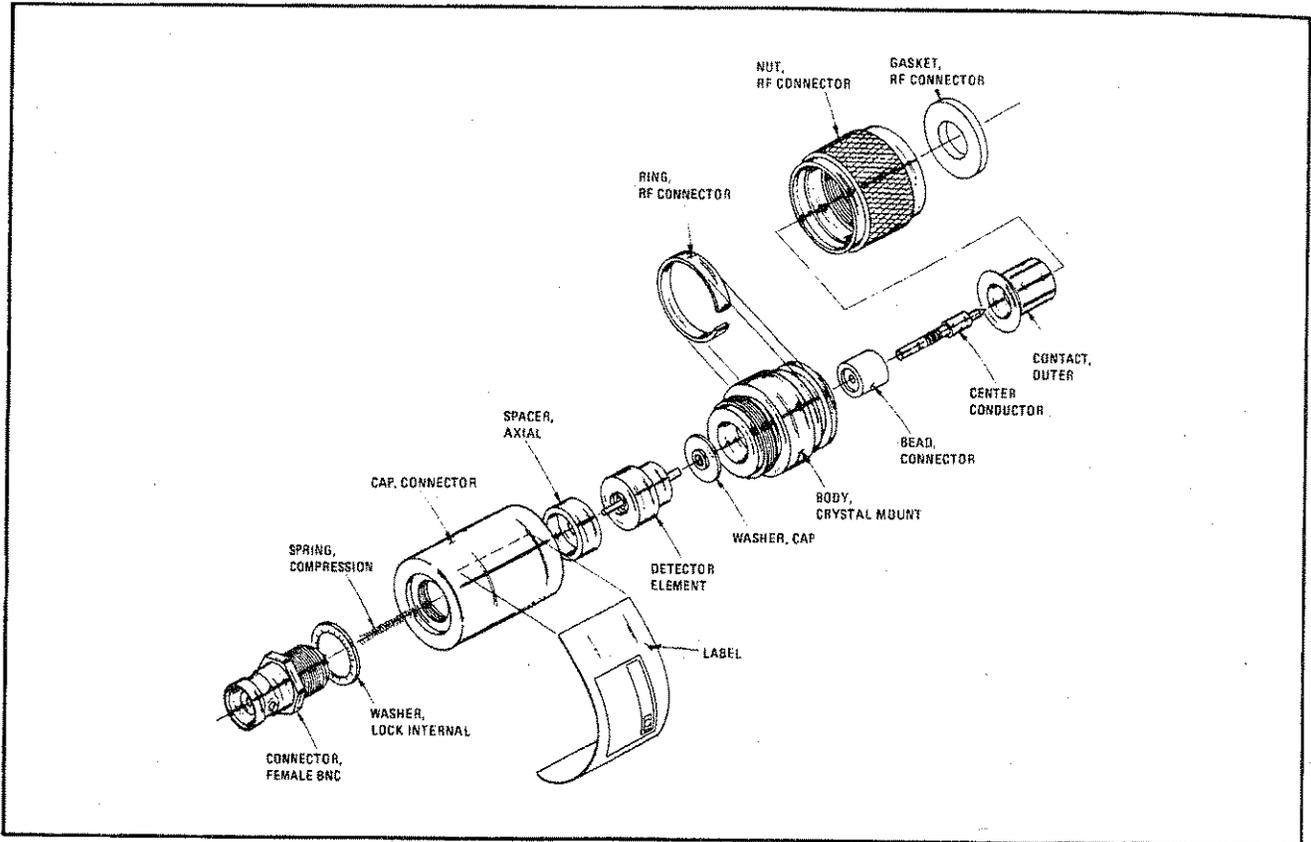

Figure 4. HP Model 423B Crystal Detector Assembly
The special detector element (see Figures 4 and 5) contained in the detector can be damaged in handling, removal, or installation if certain precautions are not taken. The handling precautions which follow should be read before performance of any operation with the detector element when it is out of either the housing or the detector element shipping container.
47. Parts mentioned in the following procedure are identified in Figures 4 and 5.
- d. Install the RF washer, axial spacer, and new detector element. Figures 4 and 5 show the proper orientation for the internal components. Insert the RF adapter washer first; then carefully insert the large pin end of the detector element into the center contact inside the detector body. Place the axial spacer over the small pin end of the detector element.